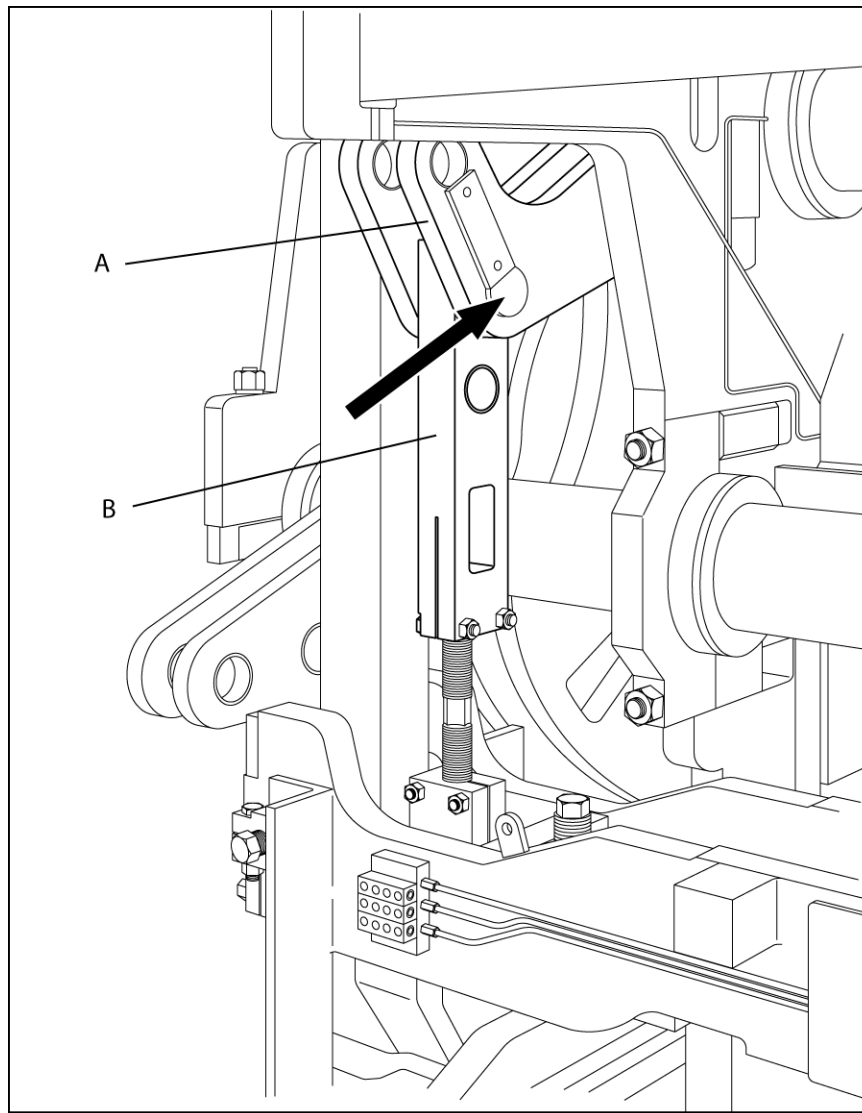

Figure 4.41 STRIPPER HEAD SHAFT AND LINKS
- b. Stripper head shaft (A) - position pins in inside holes (short stroke) (see figure 4.41).
- c. Stripper head links (B) - position pins in top holes. Adjust links to obtain approximately **105mm [4 1/8"]** between link ends (see figure 4.41).